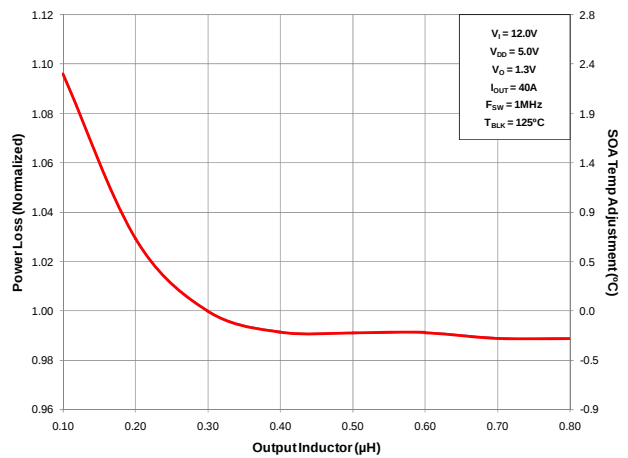

Figure 6 Normalized Power Loss vs. Inductance
- (Figure 6) Normalized power loss for output inductor ≈ 1.03
- (Figure 6) SOA temperature adjustment for output inductor $\approx 0.6^{\circ}\text{C}$